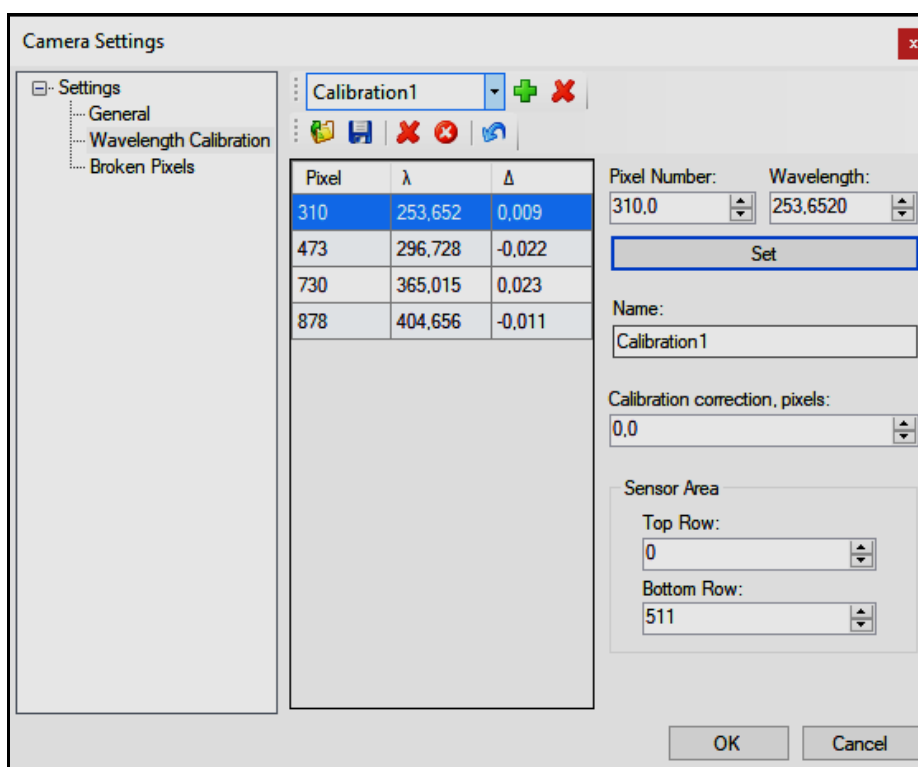

Fig. 32 Wavelength calibration window
- Click  within «**Camera Settings**» to open «**Wavelength Correction**» window (Fig.32). Create a new calibration by clicking the  (*Add new calibration*) button. Type in the boxes the **pixel number** and the corresponding **wavelength** in nanometers. Click «**Set**» to **add a new ranging mark** to calibration.